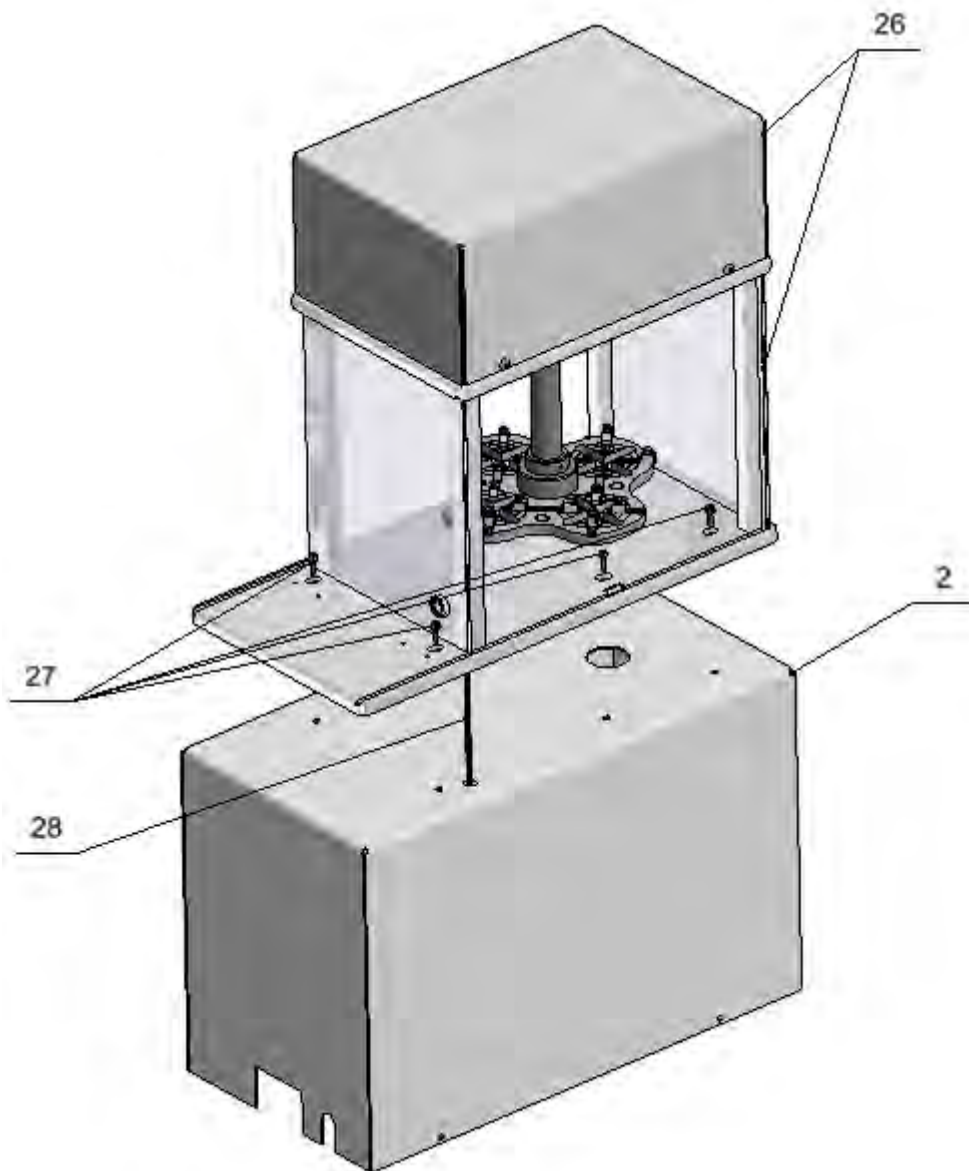

Fig. 6
23. Using six M3x14 screws fix the reel mechanism with the draft shield (26) to the housing (2), pass the wires (28) through an opening. (Fig. 6)
- 27.2. Loosen six M3 screws (27). (Fig.6)